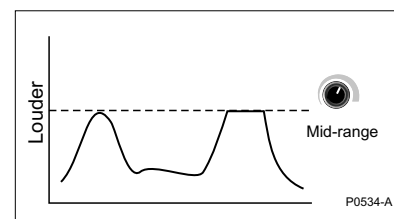

Figure 4.10 Mid-range volume
- If the **Volume** control is turned down to half way, the target signal is unaltered for a small target, but is limited for a bigger target (see Figure 4.10).